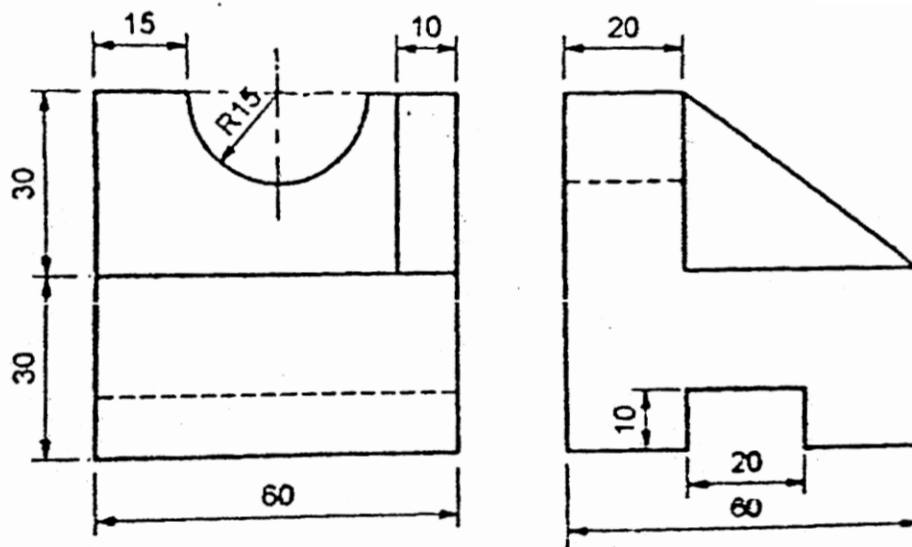

Figure 9
3. Draw Isometric View for **Figure 9**